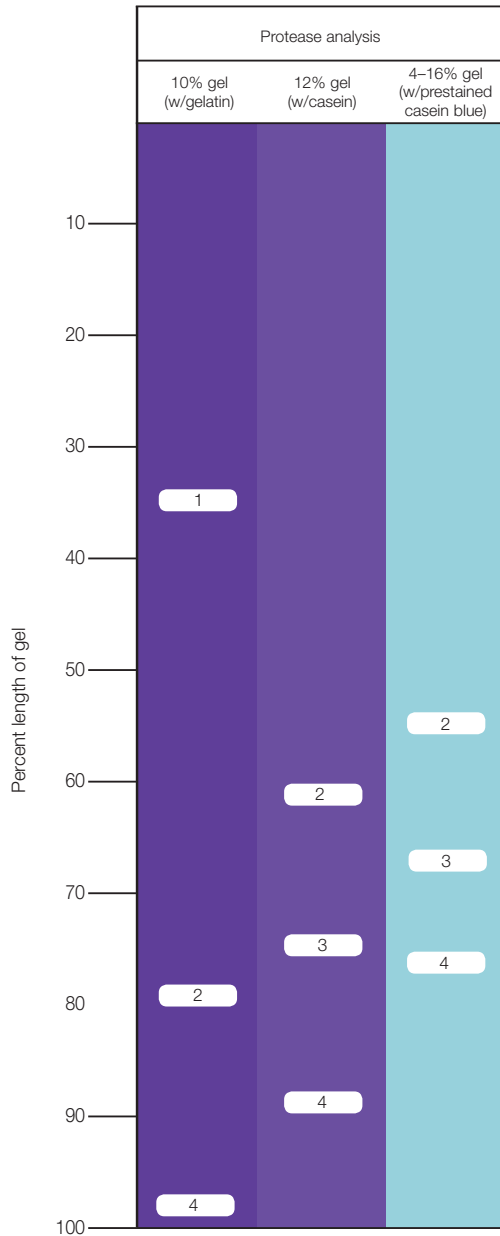

Figure 21. Novex Zymogram gel migration chart. The numbered bands refer to the following proteases:
- Separation range: 10–220 kDa (Figure 21)